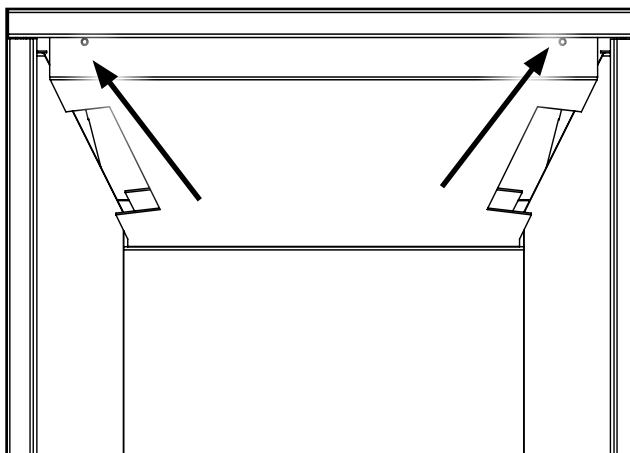

Figure 48. Top Panel Screws.
2. Remove the top porcelain panel by un-screwing it from the firebox baffle as shown in Figure 48 using a T20 screwdriver.